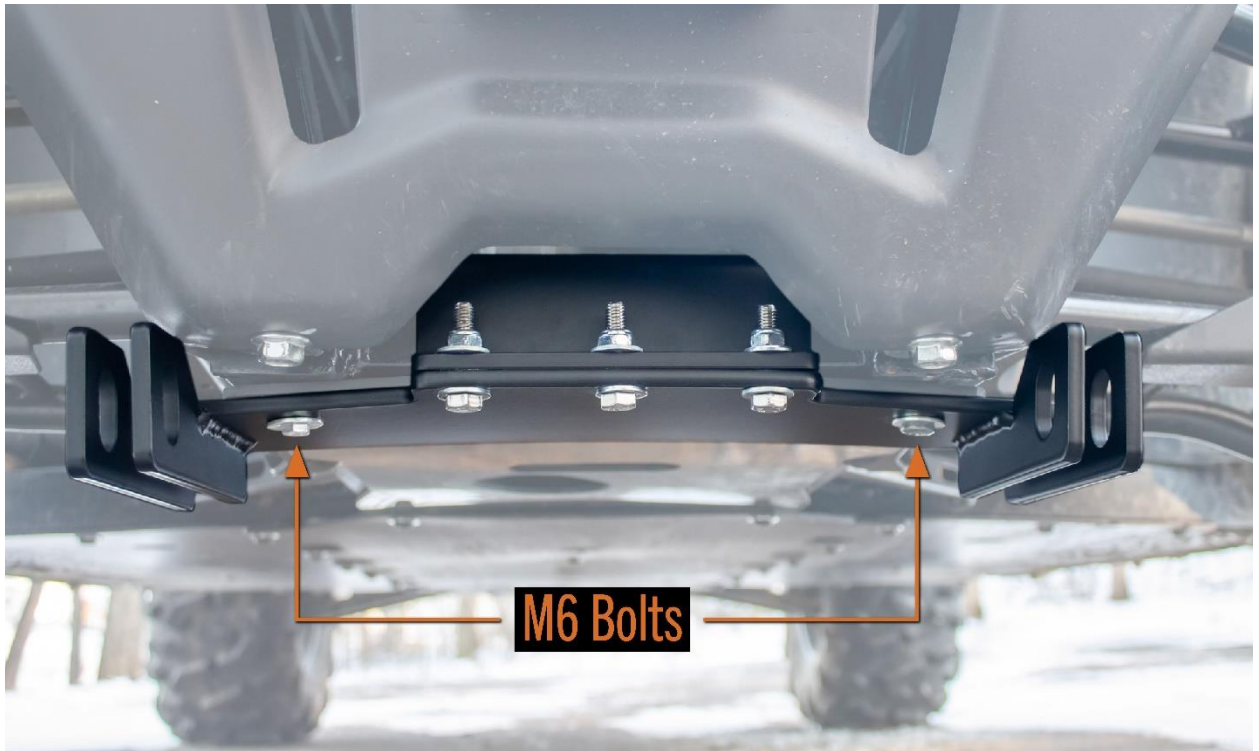

Figure 4
4. Secure the mount using the two (2) M6 bolts that were removed from skid plate and tighten all bolts, as shown in **Figure 4**